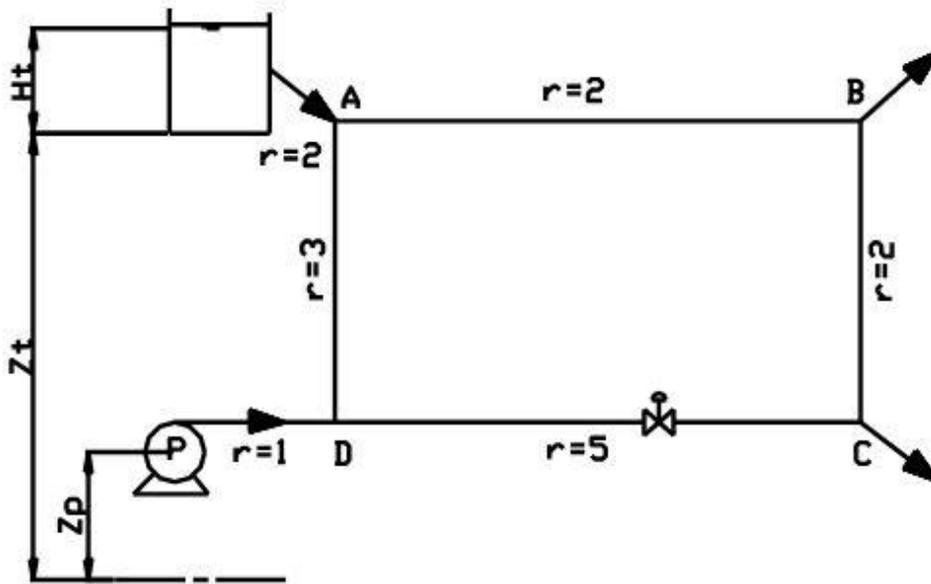

Fig.6
7. For the water network showed in Fig.6, the flow rate required at point B is  $7 \text{ m}^3/\text{s}$ , while the flow rate required at point C is  $8 \text{ m}^3/\text{s}$ . The pump P is 10 m above datum ( $Z_p$ ) and supplies a constant pressure of 10 bar, while the water surface level in tank T is 60 m above the same datum. Determine the flow rate leaving the pump and the tank given the following valve data: